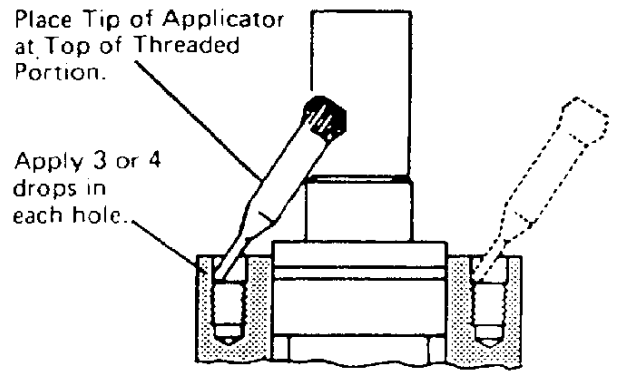

Figure 13
- 26 Apply 3 or 4 drops of Loctite sealant at top of thread for each of four holes in housing. See Figure 13. Do not allow parts with Loctite applied to come in contact with any metal parts other than those for assembly. Wipe off excess Loctite from housing face, using a non-petroleum base solvent.